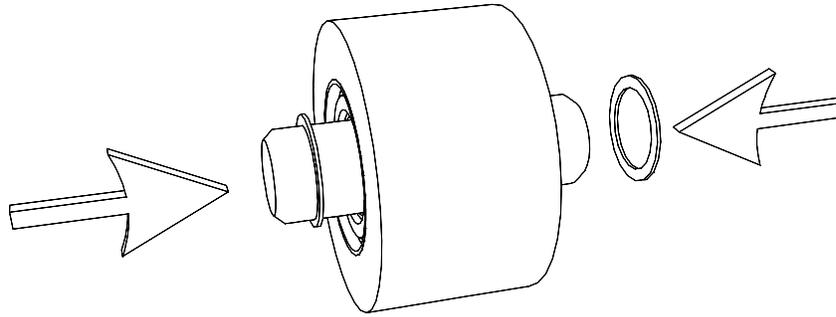

Fig. 9 - Make sure you put the washers on before installing.
- 2) Once the wheel and pin are out, remove the wheel and replace with the new one. Make sure you put the washers on either side of the wheel before re-inserting. See Fig. 9